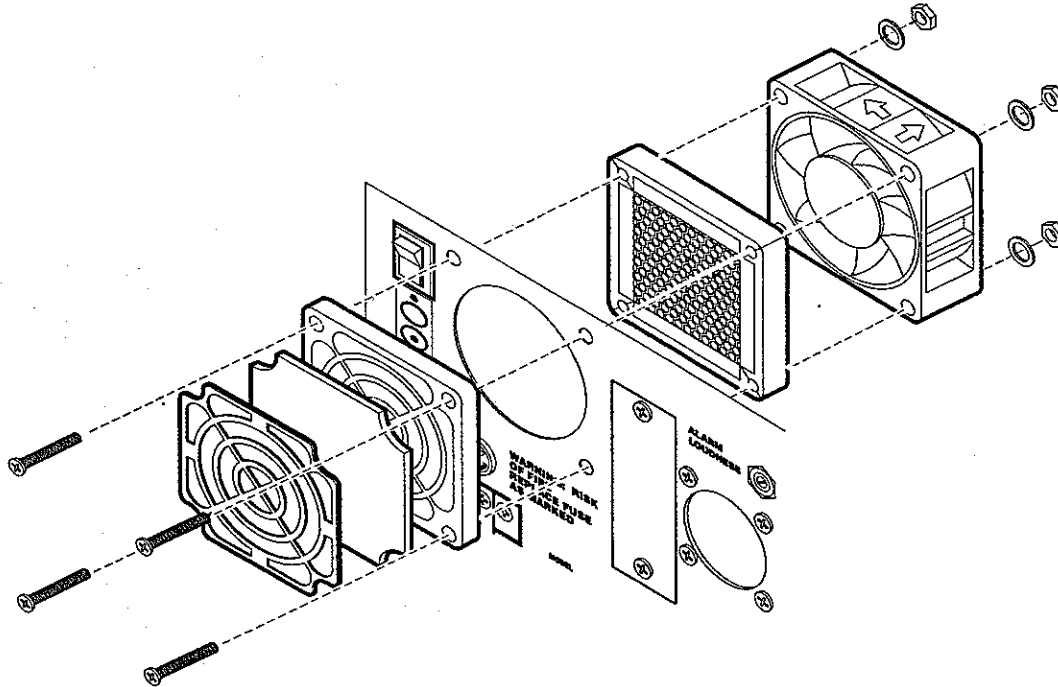

Figure 5-16. Fan Assembly
- 3 Referring to Figure 5-16, remove the four (4) screws and nuts securing the assembly to the back panel.